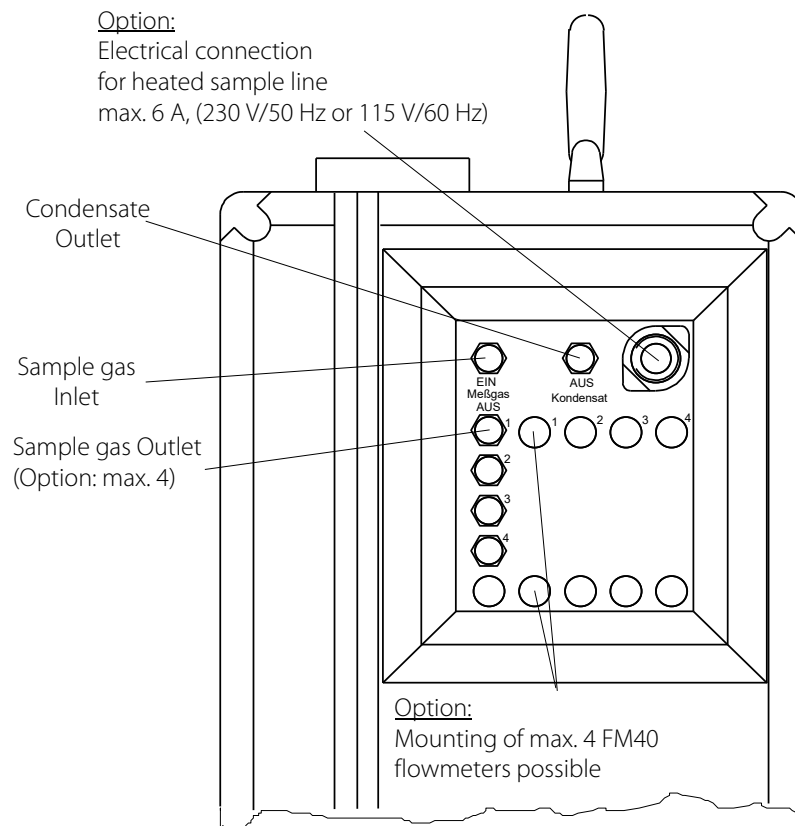

Figure 4 Sample gas connection
The 4/6 mm tube connections for the condensate and sample gas lines ⑪ are located on the right side of the case (see Figure 3 and Figure 4).
The **PSS-5** and **PSS-5/3** sample gas conditioning units can optionally be equipped with a sample gas inlet (see Figure 4, Part No. 01G9060) for connecting a heated sample line. The existing anti-kink protection must only be used for heated sample lines of connection type "C" (Part No. 03B1020). Assembly instructions can be found in the appendix.
Figure 4 shows the possible medium connections. These are located recessed in a special mounting frame on the right side of the sample gas conditioning case.
For the electrical supply of a heated sample line with Pt100 sensor and/or the connection of other heated components, e.g. heated sample gas probe or heated filter, a connection socket as shown in Figure 4 is available. The maximum connected load is 6 A, 1380 W for the 230 V sample gas conditioning or 6 A, 690 W for the 115 V version.